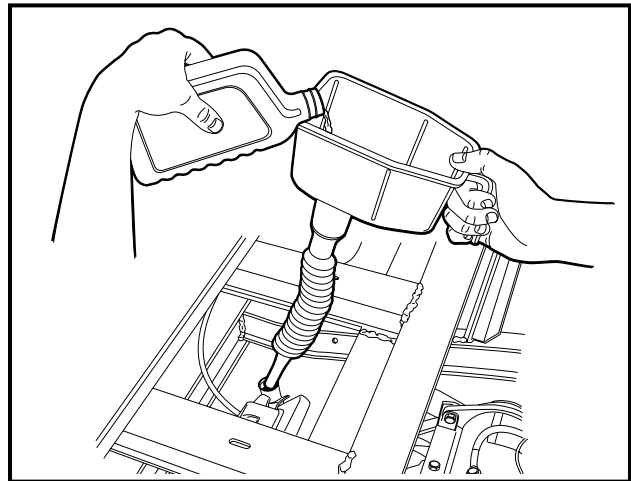

Figure 13-12 Add Engine Oil
7. Install oil drain plug in the crankcase and tighten to 20 ft-lb (27.1 N·m). Apply a light film of oil on the seal of a new oil filter and install the filter on the crankcase. Fill the crankcase to the proper level with the correct type of oil (**Figure 13-12, Page 13-9**). **See Periodic Lubrication Schedule, Section 10, Page 10-2.**